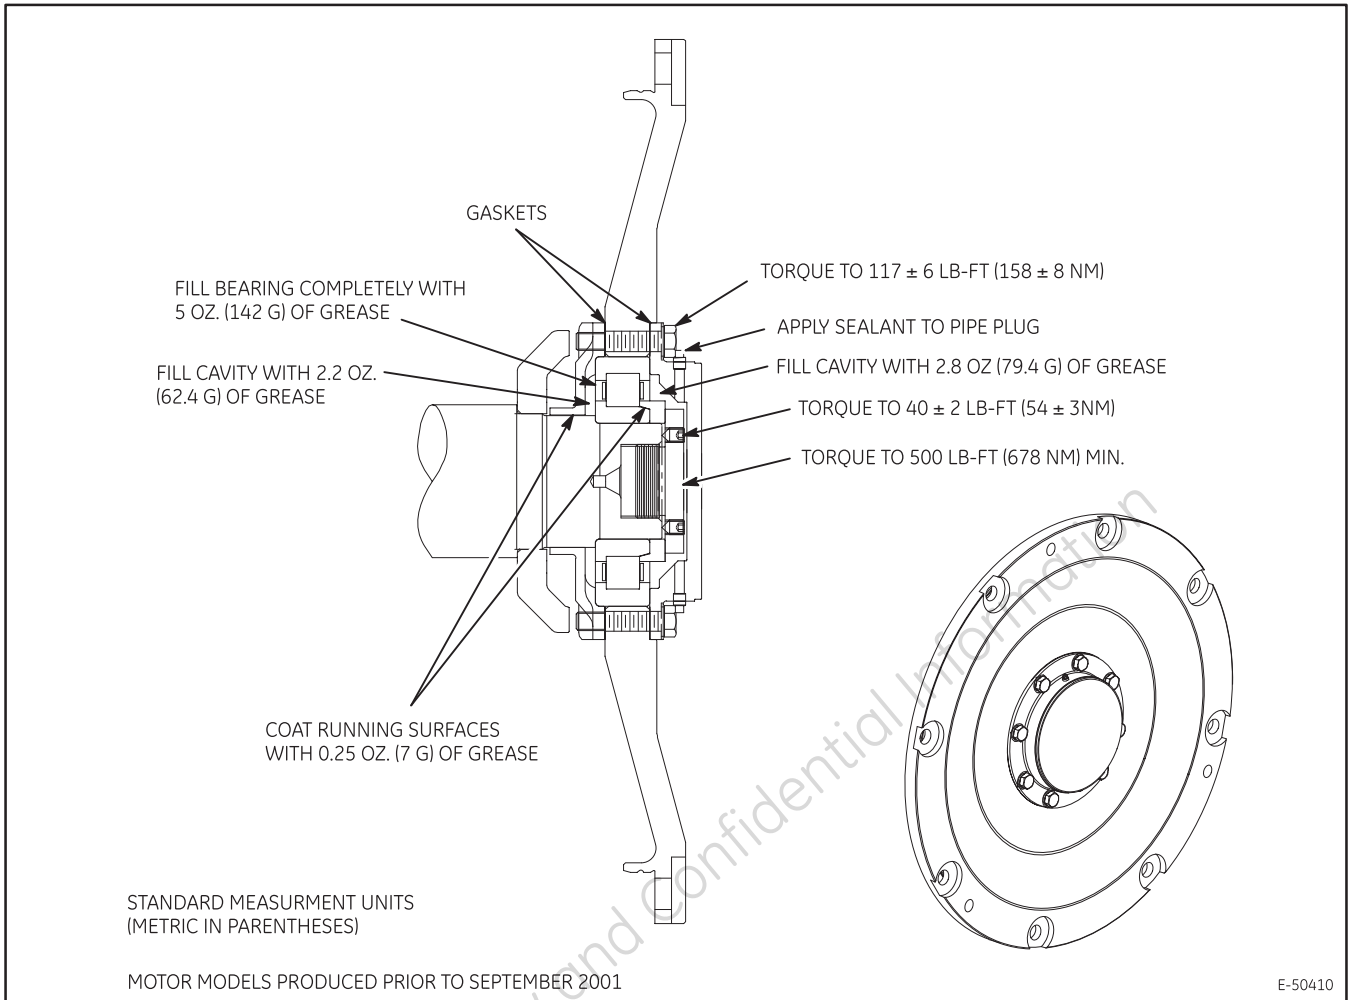
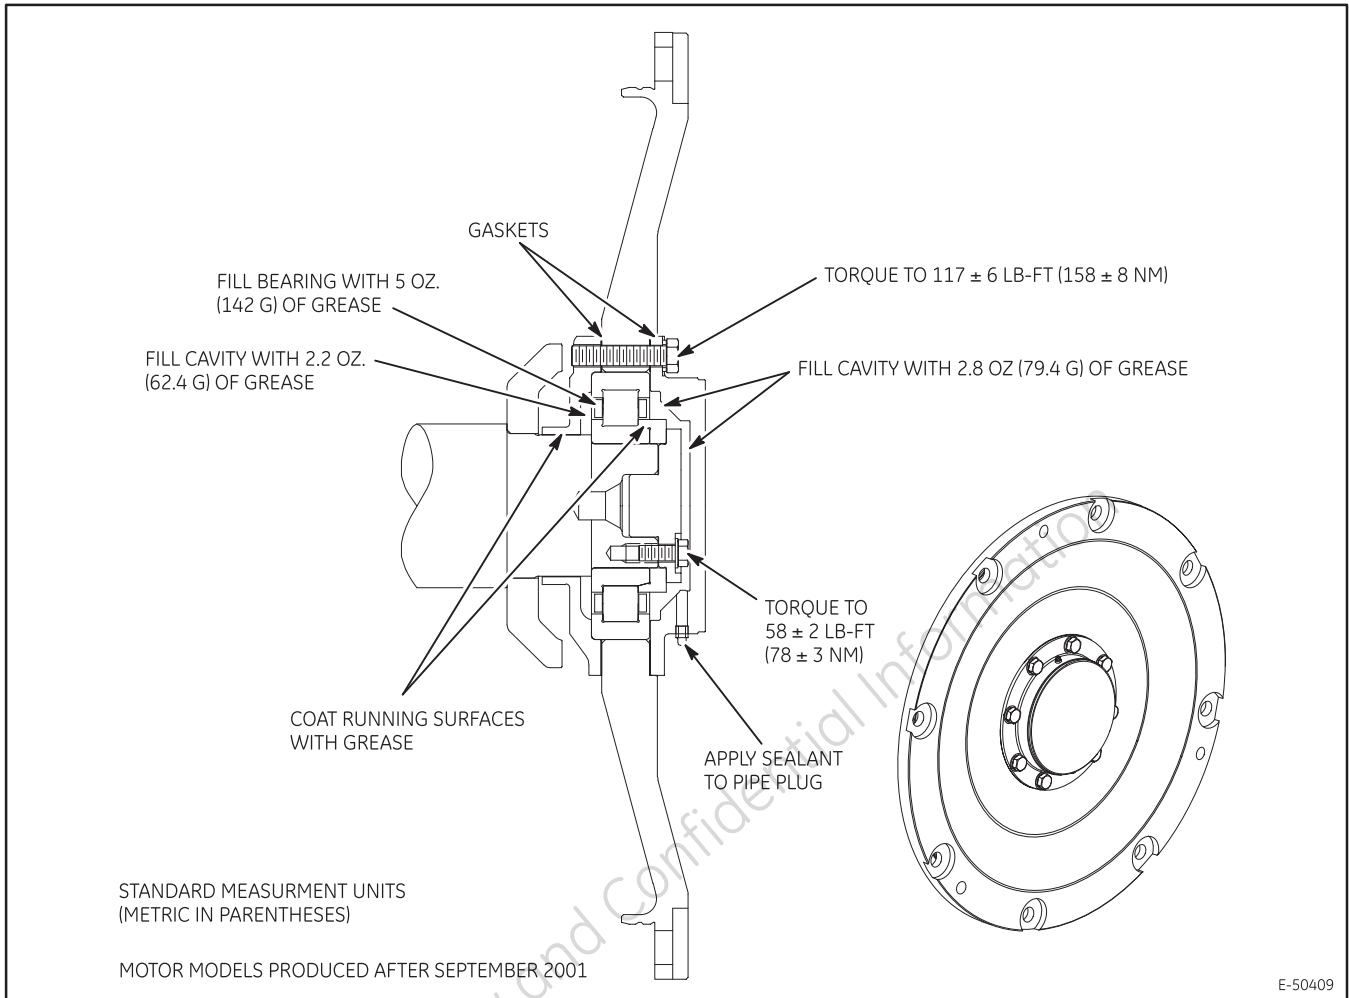

Figure 8. Connection End (CE) Bearing Assembly for Models Manufactured Prior to September 2001.
Figure 9. Connection End (CE) Bearing Assembly for Models Manufactured After September 2001.
5.2.3. Connection End (CE) Bearing Assembly Removal
There are two Connection End (CE) bearing assemblies used for the 5GEB22 models. Models of the 5GEB22 manufactured prior to October, 2001 use the original design CE bearing assembly as shown in Figure 8 . 5GEB22 models manufactured after September, 2001 (Figure 9) use an enhanced performance CE bearing assembly. Refer to section 6.2. *DRILL MOTOR COMPONENT IDENTIFICATION* in this publication for details of differences in the CE bearing designs. The following sections describe the CE bearing removal for both designs of CE bearings. Select the removal procedure appropriate for the bearing design on the drill motor.